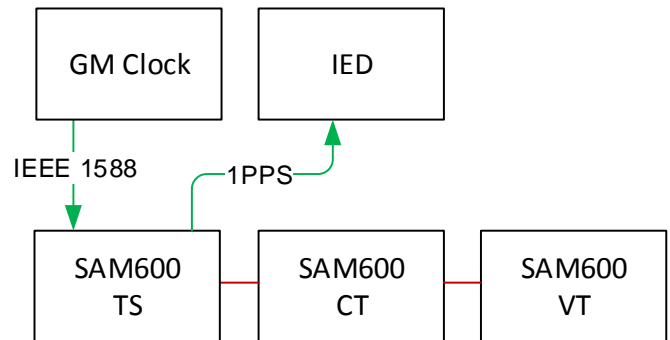

Figure 3. SAM600 IEEE 1588 synchronization
- **Synchronization by IEEE 1588** – Any SAM600 module can synchronize against an external IEEE 1588 master clock (see Figure 3) with an accuracy of 1µs in order to ensure synchronous sampling. If a SAM600-TS device is available in the system chain, then the 1PPS outputs are synchronized against the IEEE 1588 signal and can be used for synchronizing client devices such as IEDs.